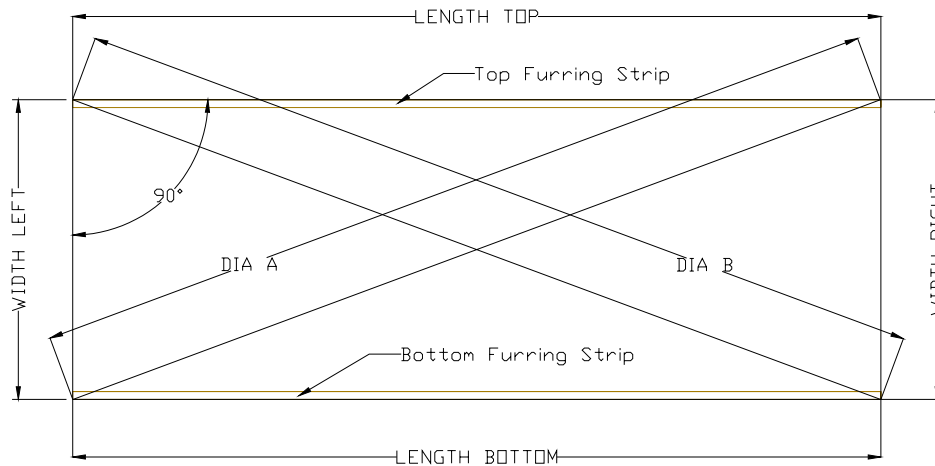

Figure 4.6; Perpendicular Diagram
- Step 5: Measure the distance on the Left from the top of the top furring strip to the bottom of the bottom furring strip. WIDTH LEFT in Figure 4.6 on Page 4-7.
- Step 6: Mark this distance on the Right of the bottom furring strip. WIDTH RIGHT in Figure 4.6 on Page 4-7.
- Step 7: Measure and mark the Furring Strip Length on the bottom-furring strip, see Table 4.1 on Page 2. This measurement should go from the bottom edge Left to the mark (Step 6) Right. LENGTH BOTTOM in Figure 4.6 on Page 4-7.
- NOTE: At this point, you should have an “X” on the Right side. This point is for Dia B in Figure 4.6 on Page 4-7.